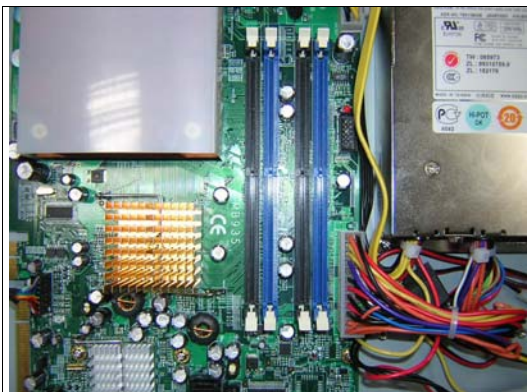

Fig. 6-3 DIMM sockets
1. FWA8206 series support two groups of dual channels memory. One group is on the black DIMM sockets and the other one is on the blue DIMM sockets. (Fig. 6-3)